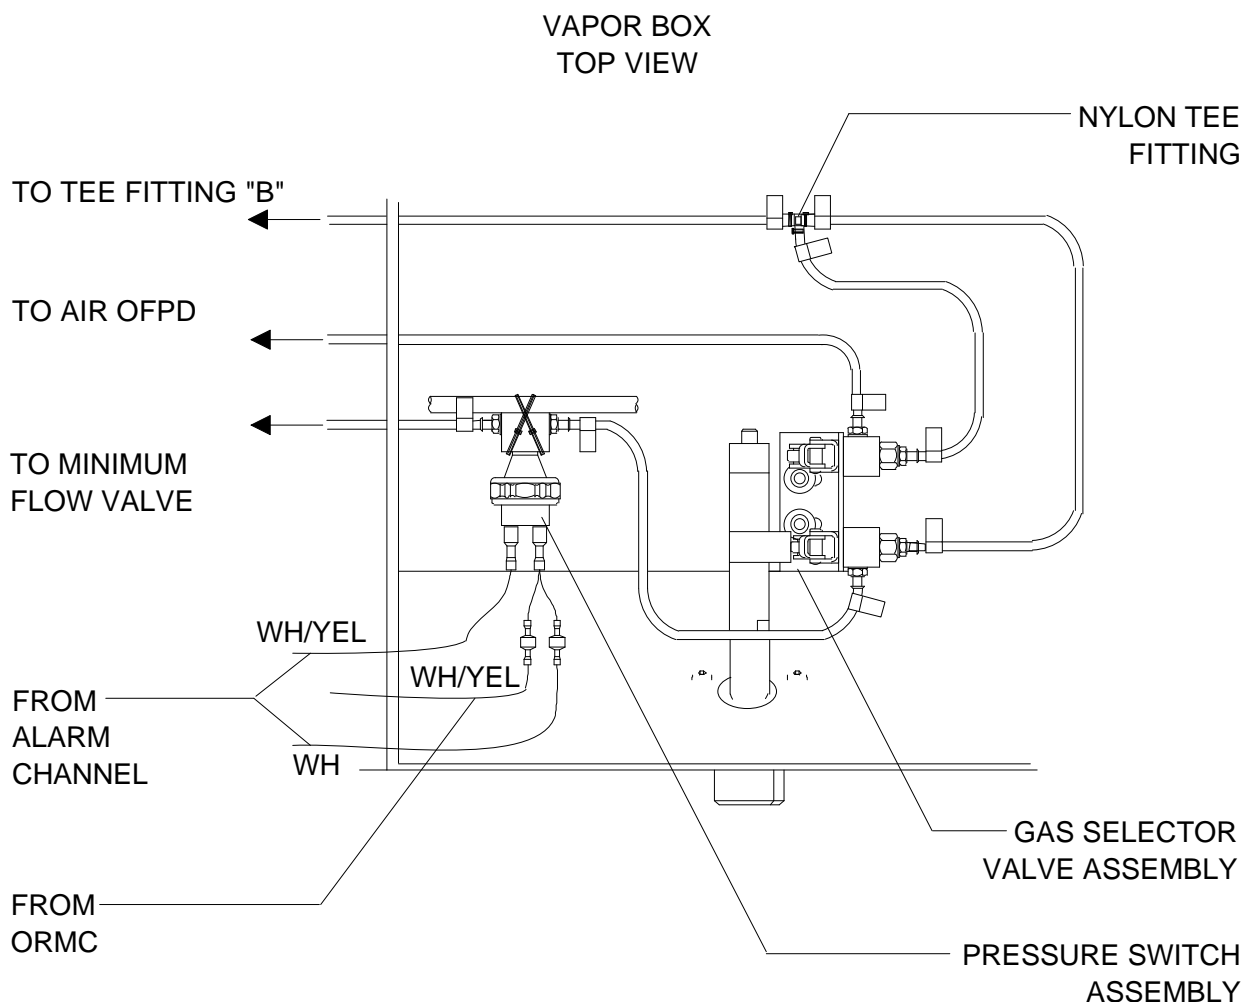
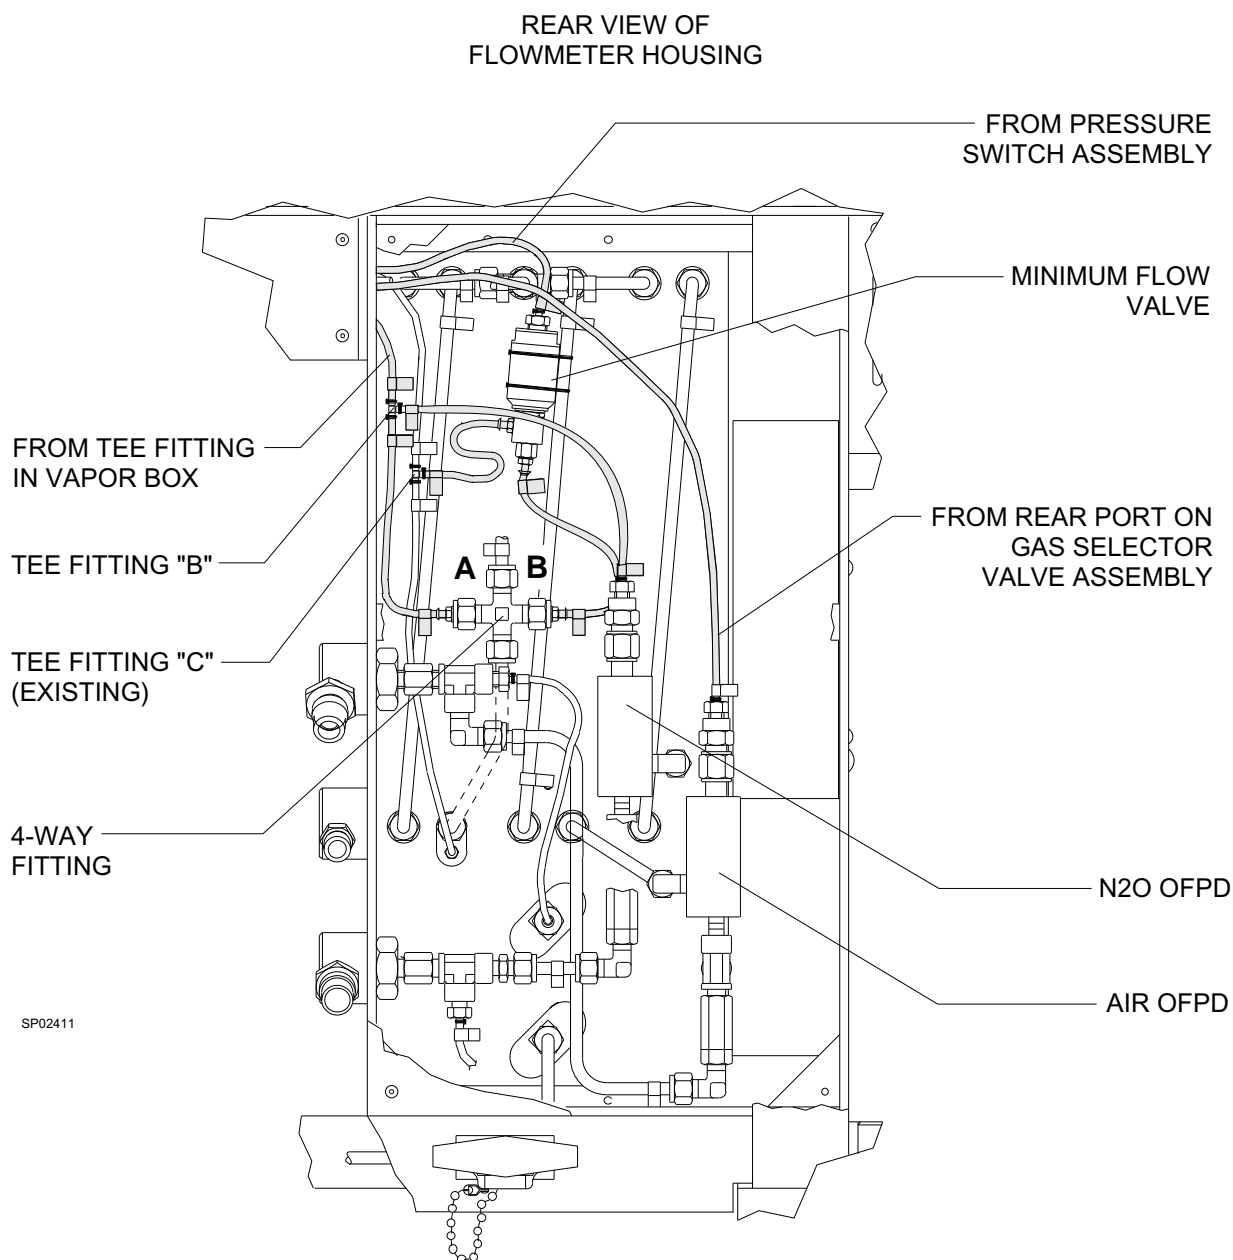
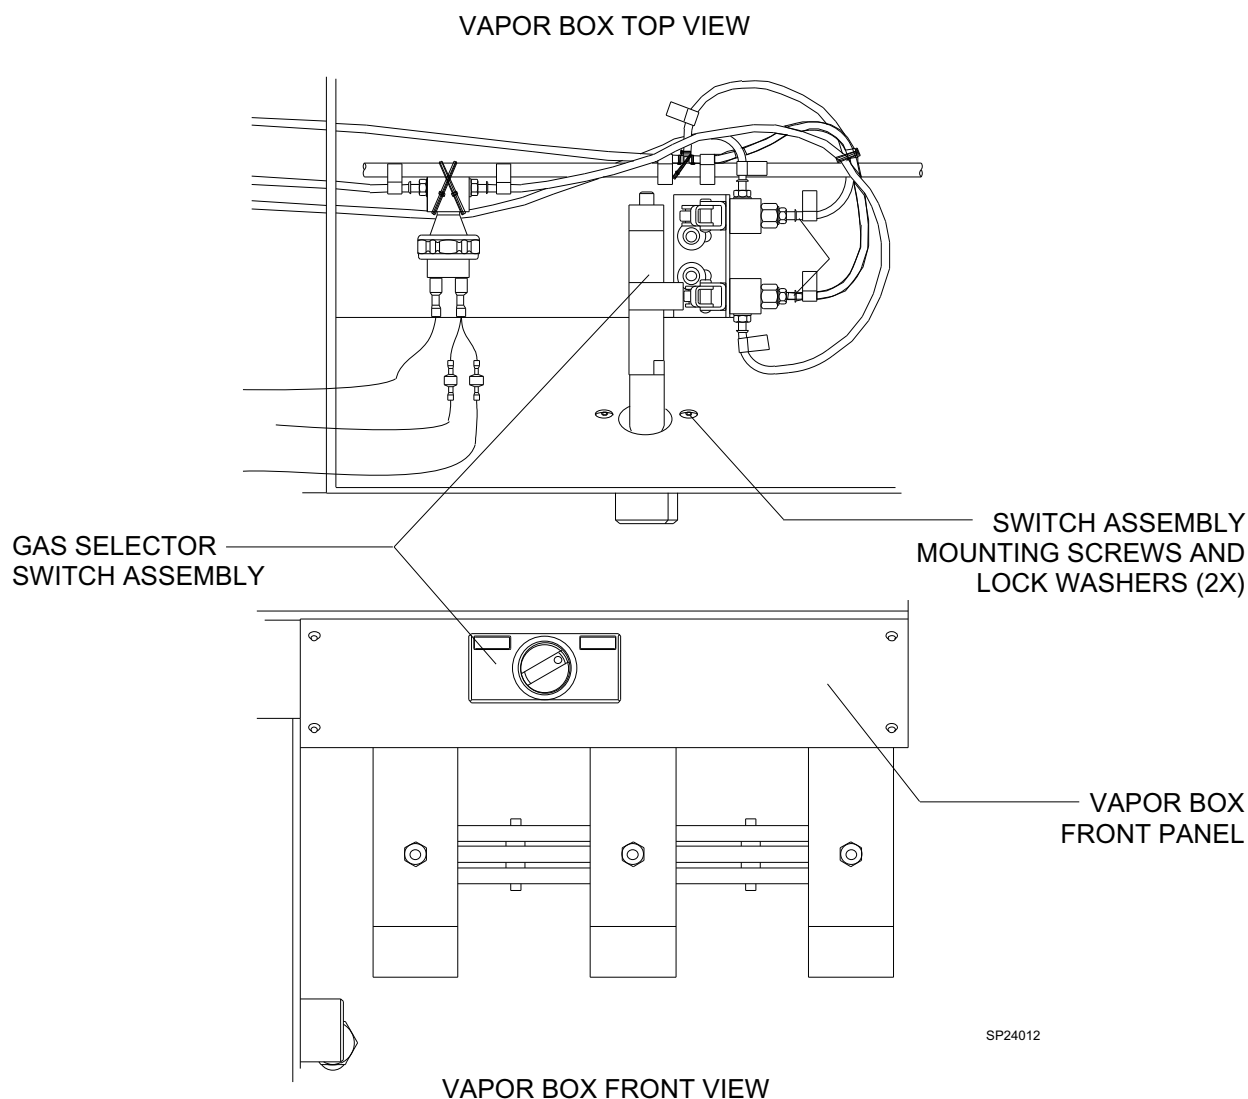

Figure 10: GAS SELECT VALVE AND PRESSURE SWITCH CONNECTIONS
Figure 11: FLEX TUBING CONNECTIONS
Figure 12: GAS SELECTOR SWITCH ASSEMBLY
57. Mount the gas selector valve assembly to the floor of the vapor box, oriented as shown in Figure 10, with two 10-32 x 5/16 in. socket head screws, lock washers and flat washers.
58. Attach the pressure switch assembly to the copper tubing in the vapor box with two tie straps as shown in Figure 10.
59. Join the wire harness connectors from the alarm channel and the ORMC to the pressure switch assembly as shown in Figure 10.
60. Install a 16 in. length of flex tubing between the right side port of the pressure switch and the front port on the gas selector assembly. Secure each end of the tubing with a press-on clamp. Install a O₂ label on each end of this tube as shown in Figure 10.
61. Connect a 10½ in. length of flex tubing to the side port of the front valve on the gas selector, and secure it with a press-on clamp. Connect the other end of the tubing to a nylon tee fitting and secure it with a tie strap. Install a O₂ label on each end of this tube as shown in Figure 10.
| <p>63. Connect a 24 in. length of flex tubing from the rear port on the gas selector assembly to the hose barb on the top of the air OFPD in the flowmeter housing. See Figures 10 and 11. Secure the valve end with a press-on clamp, and a tie strap on the OFPD. Install a O₂ label on each end of this tube.</p> <p>64. Connect a 13½ in. length of flex tubing to the left side port of the pressure switch in the vapor box, and secure it with a press-on clamp. Connect the other end of the tubing to the top hose barb on the minimum flow valve, and secure it with a press-on clamp. Install a O₂ label at each end of this tube.</p> <p>65. Connect a 12 in. length of flex tubing from the remaining port of the nylon tee fitting in the vapor box to the top of nylon tee fitting "B" in the flowmeter housing. See Figure 11. Secure each end of the tube with a tie strap, and install a O₂ label at each end of the tube.</p> <p>66. Connect a 5 in. length of flex tubing to the bottom of nylon tee fitting "B" and secure it with a tie strap. Connect the other end of the tubing to side port "A" on the 4-way fitting. See Figure 11. Secure this end with a press-on clamp, and install a O₂ label at each end of the tube.</p> <p>67. Connect an 8 in. length of flex tubing to the top port on the N₂O OFPD and secure it with a press-on clamp. Connect the other end to the remaining port on nylon tee fitting "B" and secure it with a tie strap. Install a O₂ label at each end of this tube.</p> <p>68. Connect an 8 in. length of flex tubing from side port "B" on the 4-way fitting to the bottom port of the minimum flow valve, and secure the connection with a press-on clamp. See Figure 11. Install a O₂ label at each end of this tube.</p> | <p>69. Connect a 7 in. length of flex tubing to the side port of nylon tee fitting "C", and secure it with a tie strap. Connect the other end of the tubing to the side port of the minimum flow valve, and secure it with a press-on clamp. Install a O₂ label on each end of this tube.</p> <p>70. Inspect the existing flex tubing between the O₂ flow control valve and the bottom port on nylon tee fitting "C", and ensure that each end is properly secured.</p> <p>71. Inspect the existing flex tubing between the top port on nylon tee fitting "C" and the ORMC/ORM assembly. Ensure that each end is properly secured.</p> <p>72. Assemble the gas selector switch cam assembly to the new vapor box front panel with two 8-32 x 3/8 in. socket head screws and lock washers. See Figure 12.</p> <p>73. Install the vapor box front panel and ensure that the selector switch cams operate the gas select valves correctly.</p> <p>74. Open one cylinder valve each of Oxygen, Nitrous Oxide, and Air.</p> <p>75. Connect AC power to the machine and turn the System Power switch to ON.</p> <p>76. Remove the oxygen fine flowmeter tube from its channel by turning the upper flow tube retainer counter-clockwise with a cut down 5/32 allen key.</p> <p>77. Open the oxygen flow control valve fully counter-clockwise to flush out any debris in the new piping system.</p> |